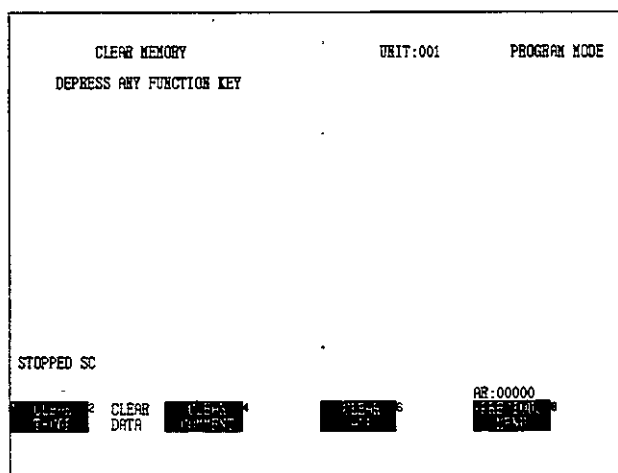
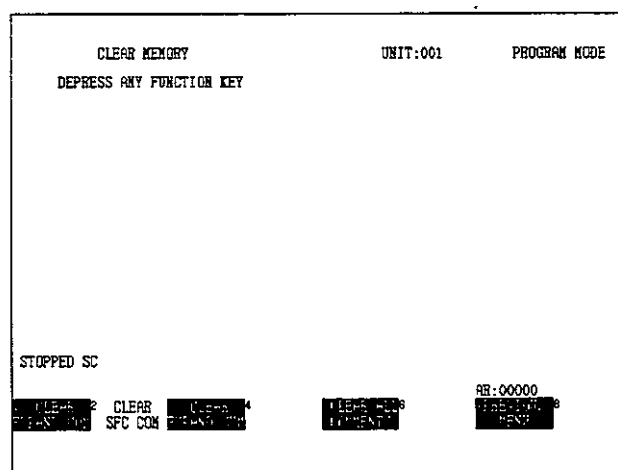

Figure 6.29
Figure 6.30
- 6) Select Clear Comment. The screen shown in Figure 6.30 will be displayed.
(2) To clear all memories at the same time, select Clear All as shown in *Figure 6.29*.
(3) Selecting Previous Menu as shown in *Figure 6.30* returns the screen to *Figure 6.29*.
(4) Select Confirm and the selected memory will be cleared. If Cancel is selected instead of Confirm, no operation will be carried out and the screen will return to the one from which the Clear request was made.
(5) See *Appendix A.2 Operational Messages* for information on the messages displayed.